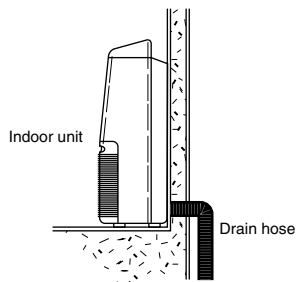

Figure 1
4. Length of the condensate drain hose should be kept as short as possible. (Figure 1)